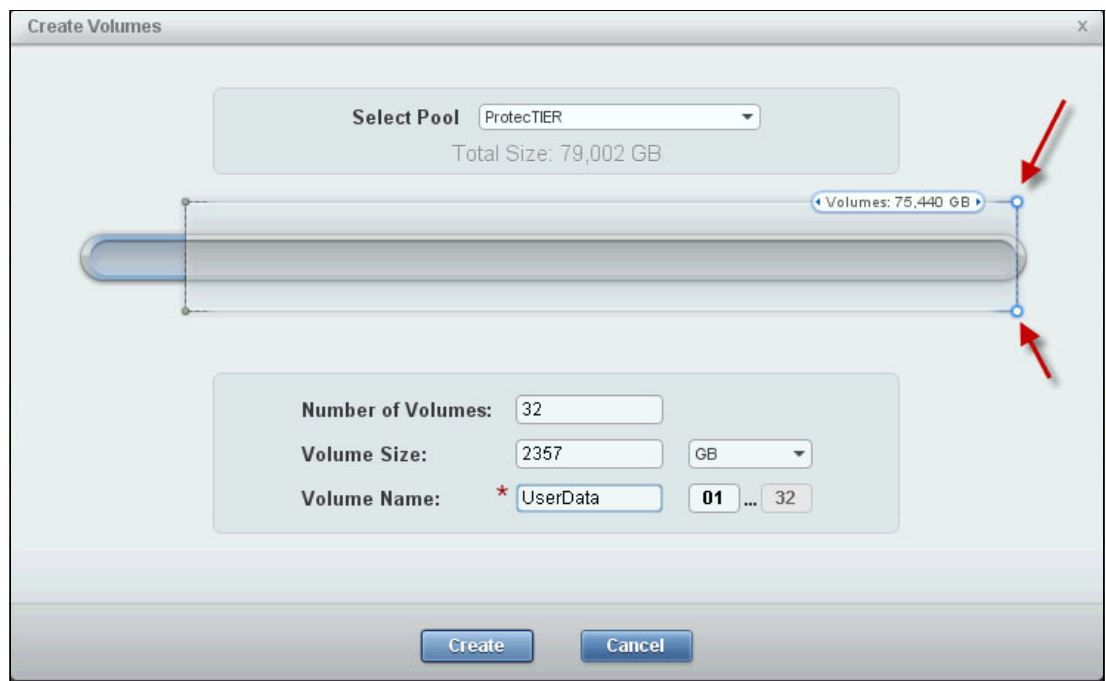

Figure 10-6 Creating user data volumes
- ▶ 32 x *<Remaining Pool Space available>*, which is 75440: Dividing 75440 by 32 means that user data LUNs on the XIV Storage System should be 2357 GB each (see Figure 10-6 on page 164).
Figure 10-6 shows the creation of volumes for user data. The arrows show dragging the slider to use all of the pool. This action automatically calculates the appropriate size for all volumes.